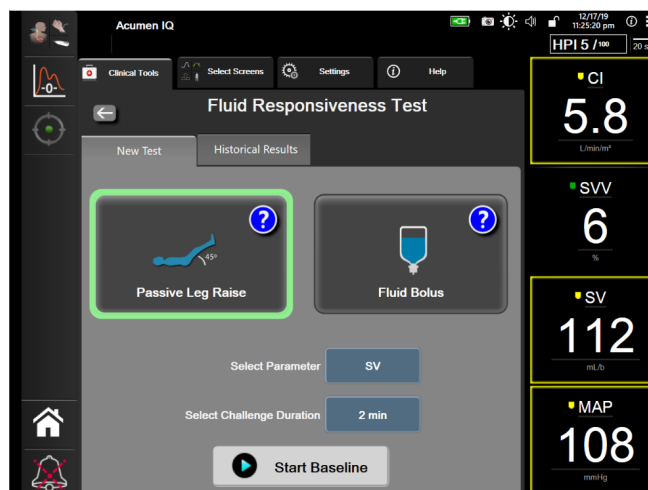

Figure 14-13 Fluid Responsiveness Test – New Test Screen
- 3 On the **New Test** tab (see Figure 14-13), touch the desired test type: **Passive Leg Raise** or **Fluid Bolus**.